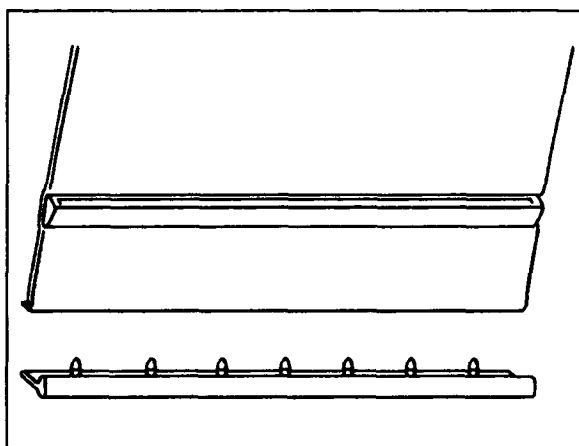

Figure 9
5. Pull lower molding (Figure 9) off lower edge of door. Remove retaining clips from lower door edge.